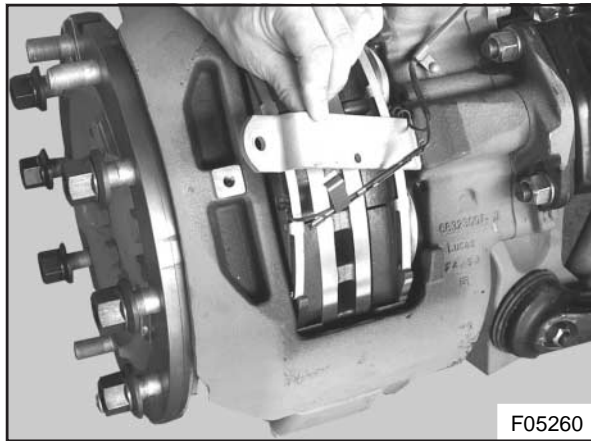

Figure 16 : Pad retaining plate removal
4. Remove the pad retaining plate as indicated in Figure 16.